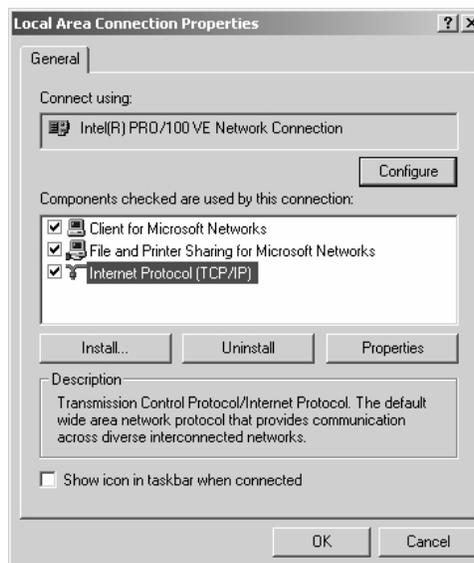

Figure 106: Local Area Connection Properties
3. Right-click the Local Area Connection icon that represents the terminal network connection and select Properties. The Local Area Connections Properties window appears. See Figure 106.